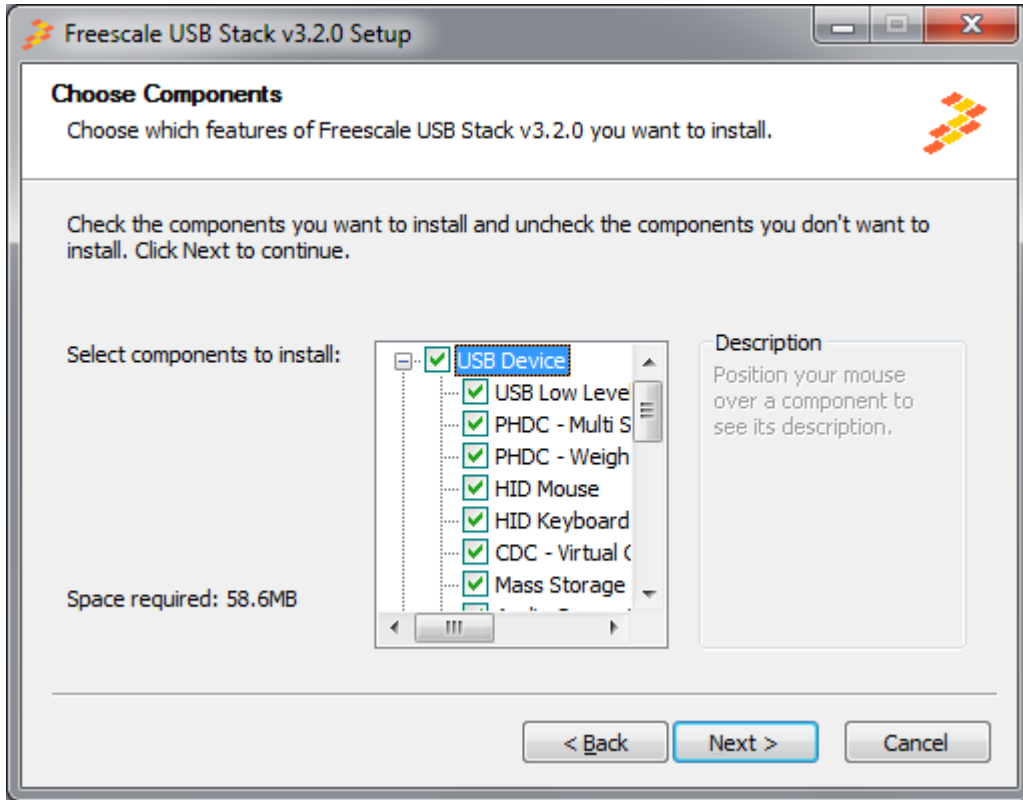

Figure A-3. Freescale USB Stack components
3. In Figure A-3, select USB low level stack and other class components to install and click on the **Next** button.